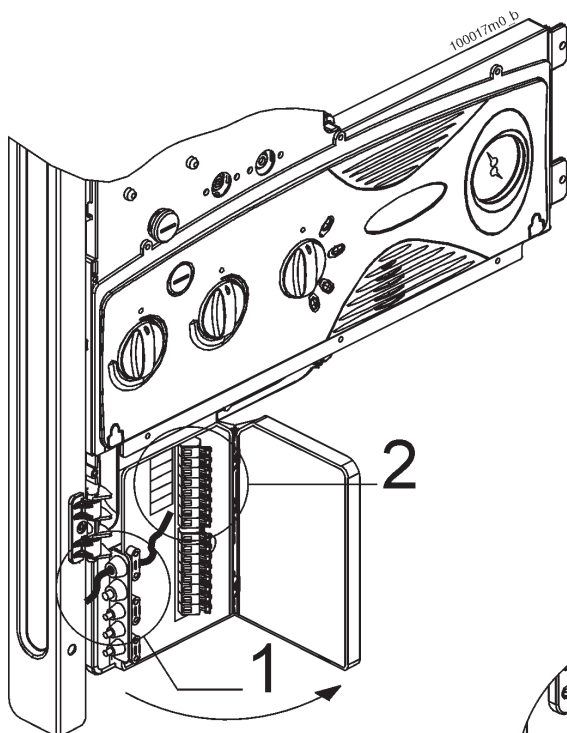

Figure 7 - Opening the junction box
- open the door "A" as shown in figure 7;